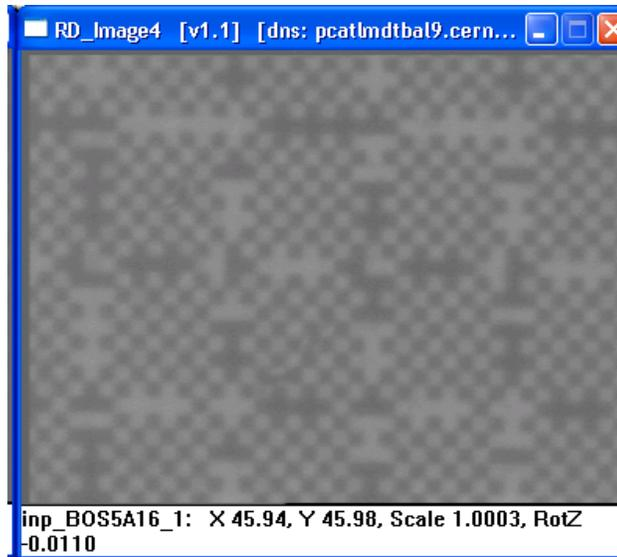

Figure 2.3: Image viewer of Server #4
2. Select and start the image-viewer of the PC the channel belongs to. For each server there is a separate executable. They reside in C:\Balign\bin\image. A shortcut on the desktop for each server might be convenient. As an example Figure 2.3 shows the viewer of server #4. During normal operation the viewer shows the images of the channels at a rate of 1 Hz.
9. *Grabbing*: to be used whenever there is serious doubt on the optical connection to the channel. Pressing the Start button triggers the Rasdim server to take images as fast as possible. A picture, as shown in Figure 2.3, should be seen. The Stop button terminates the grabbing. Another possibility is to reset the TopMux (by means of the Reset Mux button).